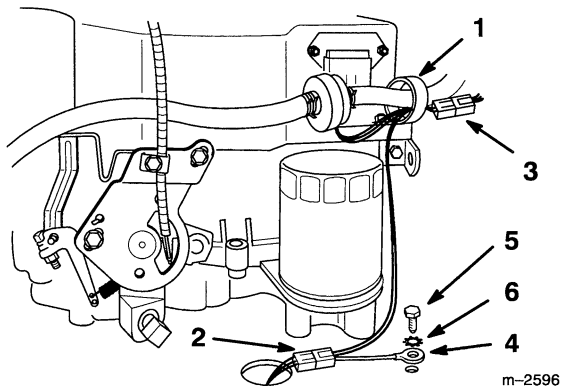

Figure 6
1. Route wires through J-clip on engine, and plug in clutch and engine in-line wire connectors (Fig. 6).
2. Secure ground wire to one of three holes in frame, at rear of engine, with self-tapping screw and star washer (Fig. 6).
3. Secure wire harness and throttle to upper handle with cable tie (Fig. 6)